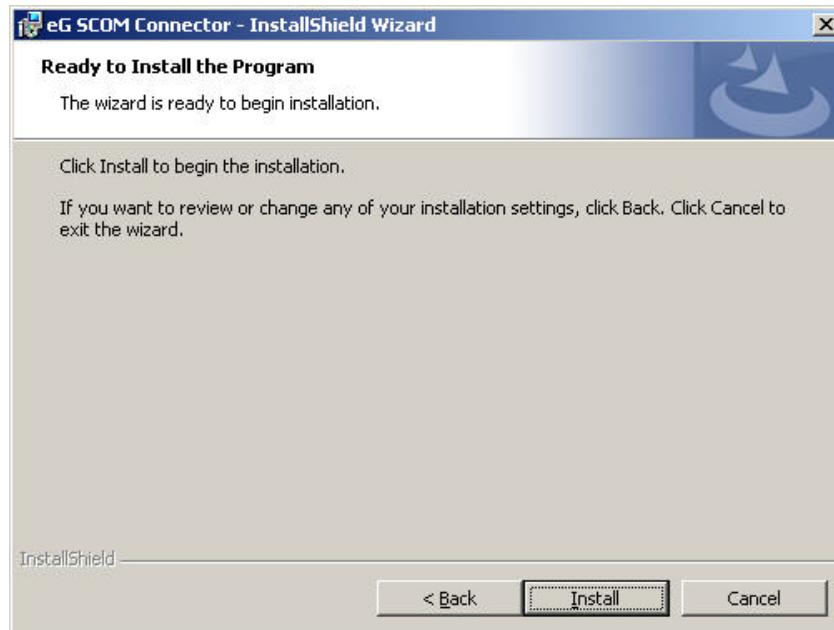

Figure 3.5: Clicking 'Install' to begin the installation
8. When Figure 3.5 appears, click **Install** to begin the installation.